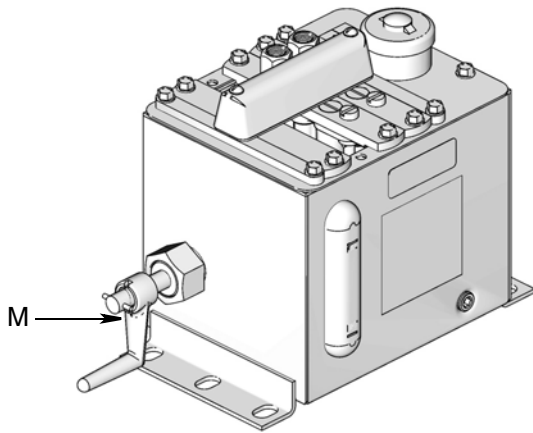

FIG. 3
The hand crank (M), located on the end of the lubricator (FIG. 3) is used for starting or for momentarily increasing the lubricant supply while the lubricator is in operation. It operates all feeds at once, but does not affect feed regulation.